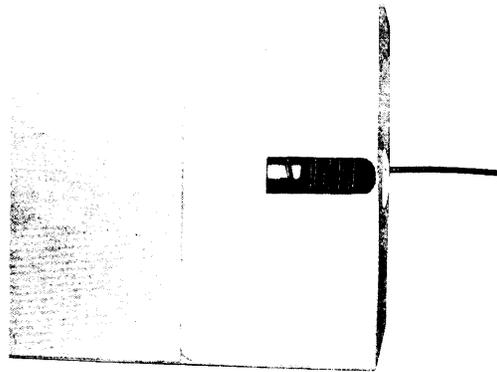

Fig. 4 - Viewing Port on Dispenser
- (c) Carry the drop wire dispenser from the building to the edge of the roadway, paying out sufficient slack to ensure the wire rests flat on the ground. Use viewing port on side of dispenser for estimating amount of wire remaining in carton (Fig. 4).